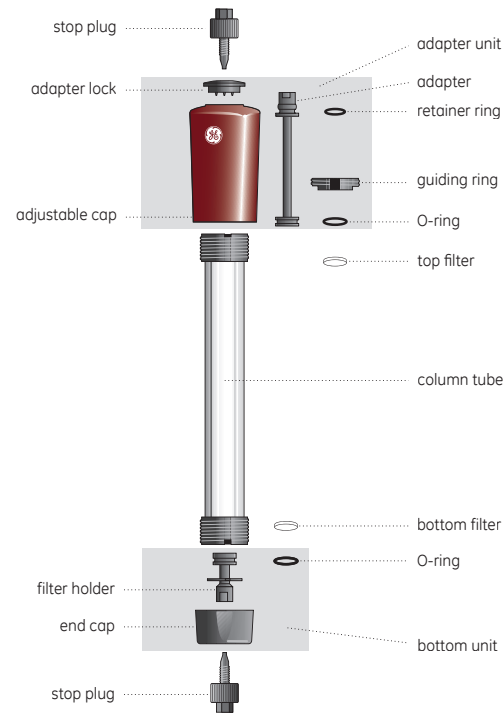

Fig 1. Tricorn empty column.
1. Insert a bottom filter (Fig 1) into the filter holder.
To dismantle the column, proceed as follows (numbers in parentheses refer to Fig. 1):
1. Lift the adapter lock (Fig 1, B) one "click" to the unlocked position.
2. Unscrew the adapter unit (Fig 1, A).
3. Unscrew the end cap (Fig 1, M) and remove it from the column tube (Fig 1, I). The filter holder (Fig 1, L) is now visible with the filter in place.